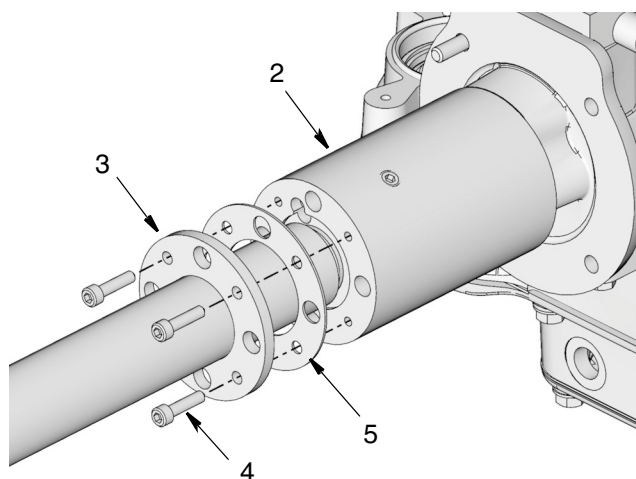

FIG. 47
26. **For Tube-In-Tube models only:** Install gasket (5) and Tube-In-Tube (3). Secure Tube-In-Tube to pump adapter (2) using screws (4). Use a socket to tighten bolts securely (FIG. 47). Torque to 7-9 ft lbs (9.49-12.2 N.m).